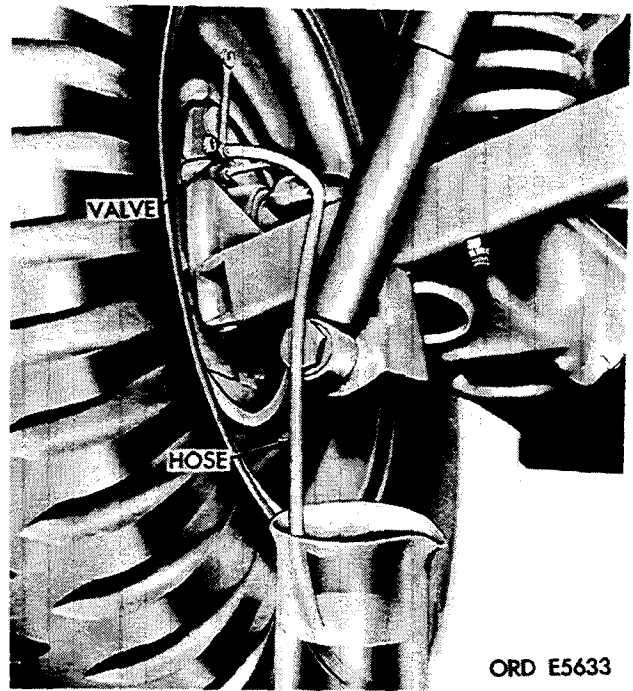

Figure 2-369. Attach bleeder hose.
(2) Clean bleeder screw. Attach a bleeder hose to the screw and submerge lower end of hose in hydraulic fluid in a transparent bottle (fig. 2-369).